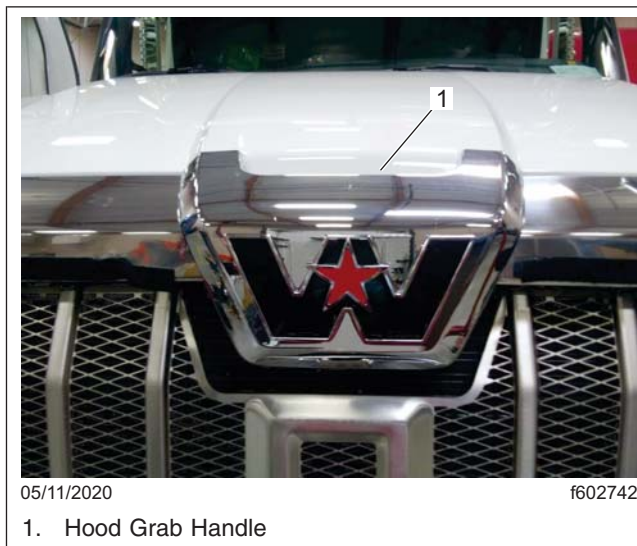

Fig. 2.11, Western Star Hood
2. With both hands on the grab handle at the front of the vehicle (see Fig. 2.11), slowly tilt the hood forward.